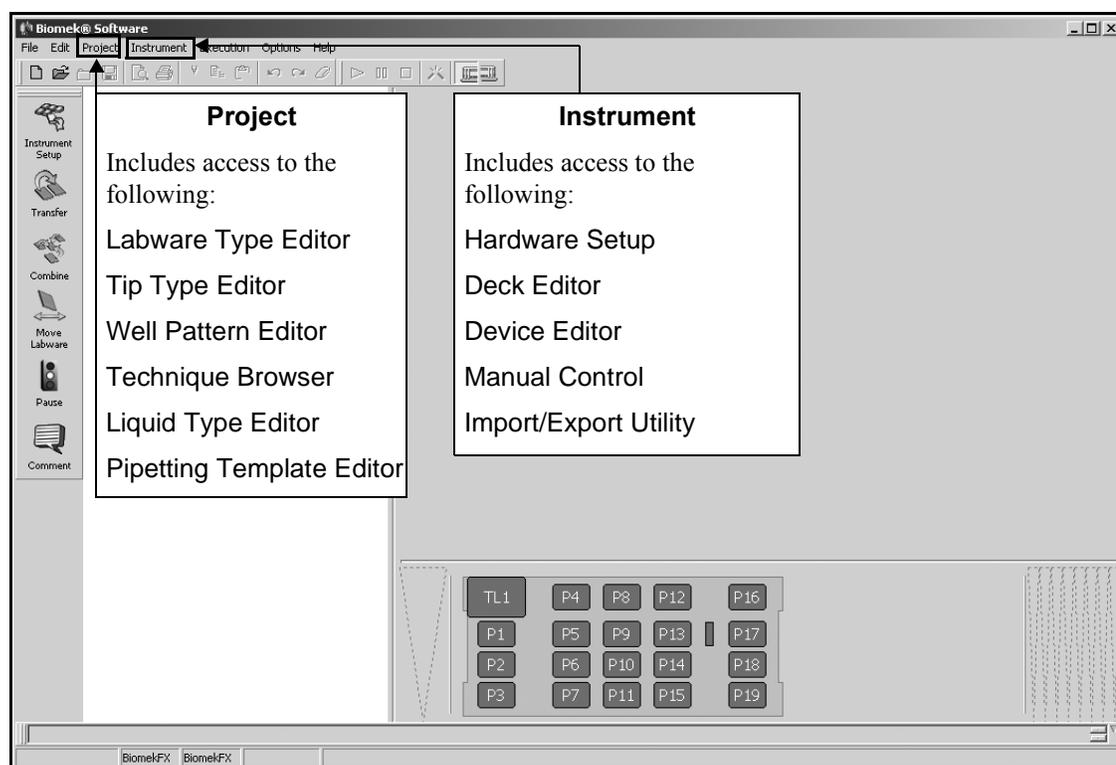

Figure 3-1. Biomek main editor
In this chapter you will be given information and instructions for using the editors in the Biomek Software. The editors allow you to customize a method to your special requirements. You can go beyond the predefined project items and instrument configurations; manually control the pod; restore instrument settings and project files; and configure external devices using specific editors. The editors are accessed from the **Project** or **Instrument** menus located on the toolbar of the Biomek main editor (Figure 3-1).
- Project menu (Figure 3-1)
- Instrument menu (Figure 3-1)
Following is a brief description of the editors available from the two menus displayed in Figure 3-1. If you would like to learn more about a specific editor, refer to the specified chapter for more information.
The editors on the Project menu (Figure 3-1) allow project items to be created, copied, revised, and renamed. They include the following:
The editors on the Instrument menu (Figure 3-1) allow instrument configuration to be changed. They include the following: